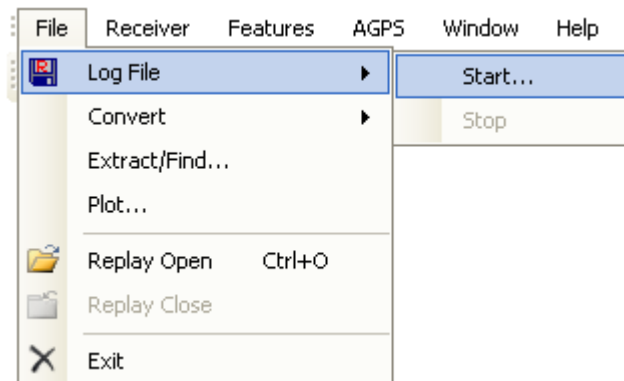

Fig 17: Main Menu Bar access to the Log File command.
- i. The *Log File* window should open, which is shown in Fig 17. Click on the “. . .” button, as indicated by the arrow in Fig 19, to open a window where the user can specify the output folder and the output file name.